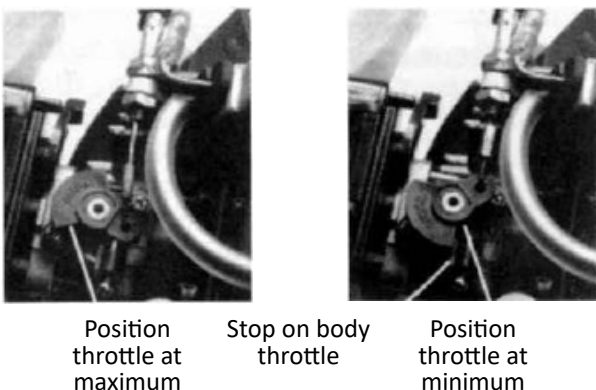

Figure 10
3. Once the 6 mm of free play is reached, tighten the two (10 mm) throttle cable nuts. When the throttle cable is properly adjusted and the throttle trigger is fully pressed (full throttle), the throttle will touch the stop on the throttle body. See figure 10.